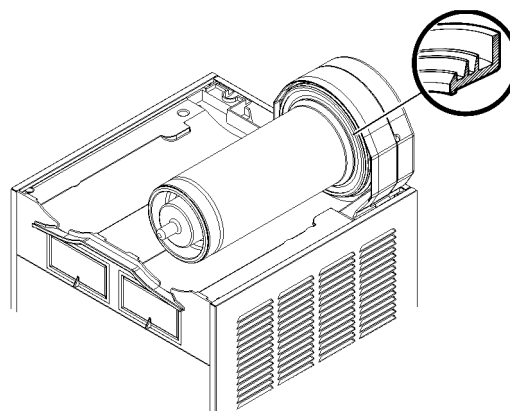

figure 14
- 4 Fit bowl gasket around its seat. Note: the largest brim of gasket must face against the rear wall (see figure 14).